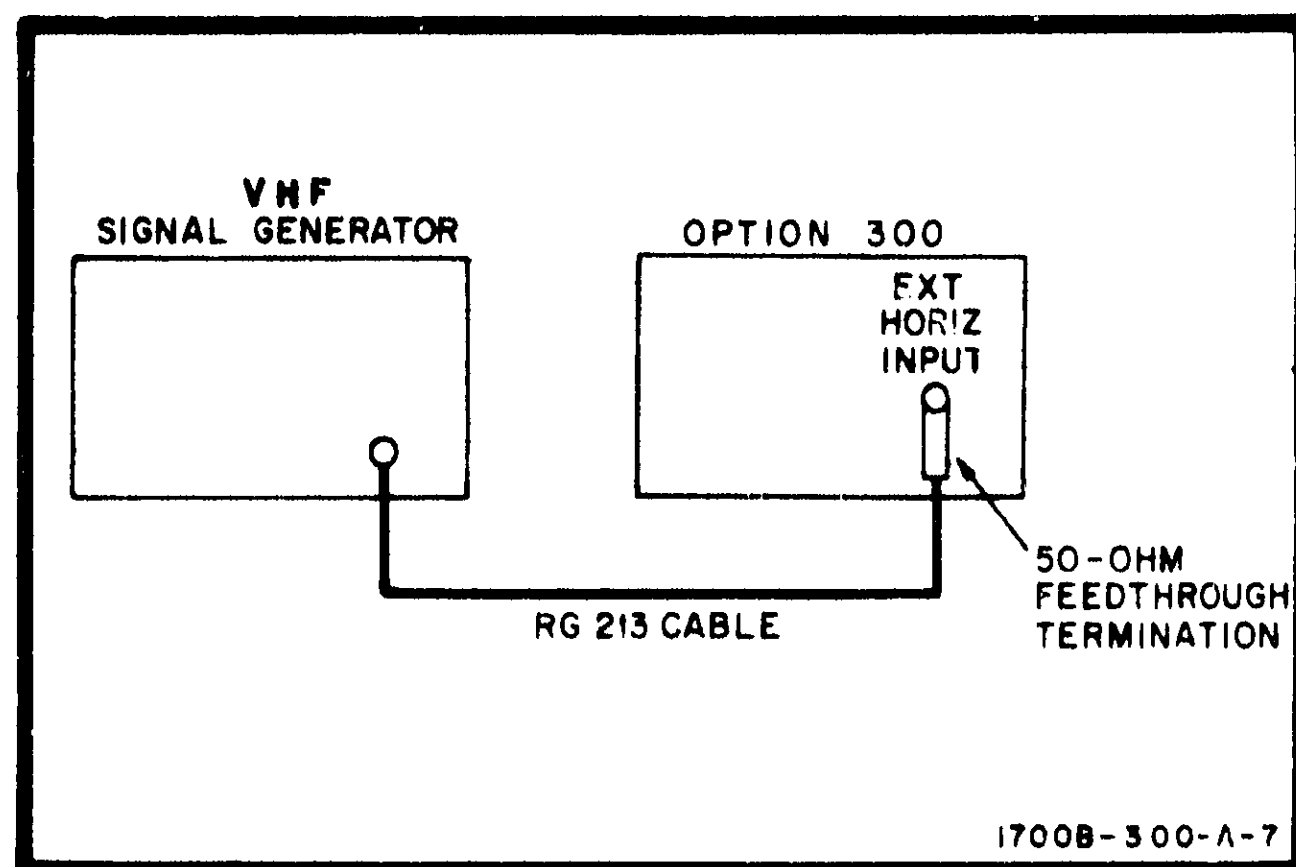

Figure 5-10. Ext Horiz Bandwidth Test Setup
- a. Set instruments up as shown in figure 5-10.